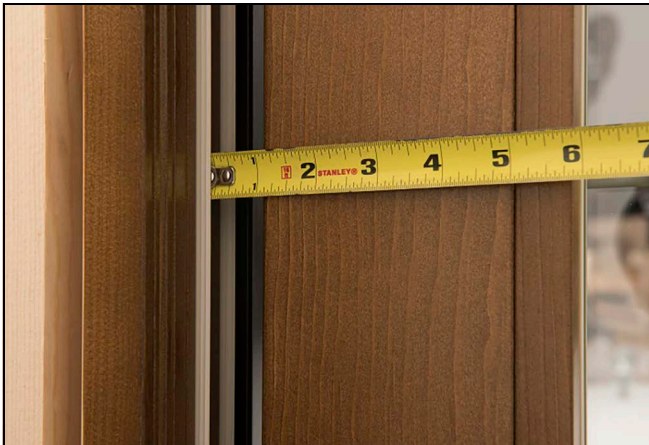
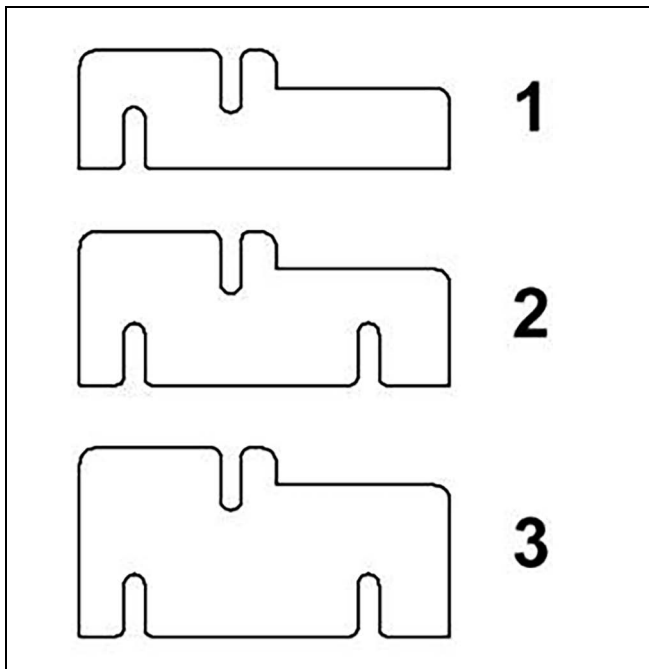

Figure 69
Figure 70
1. Measure the gap between the panel and jamb. Choose the proper height support block. See Figure 69 and Figure 70.